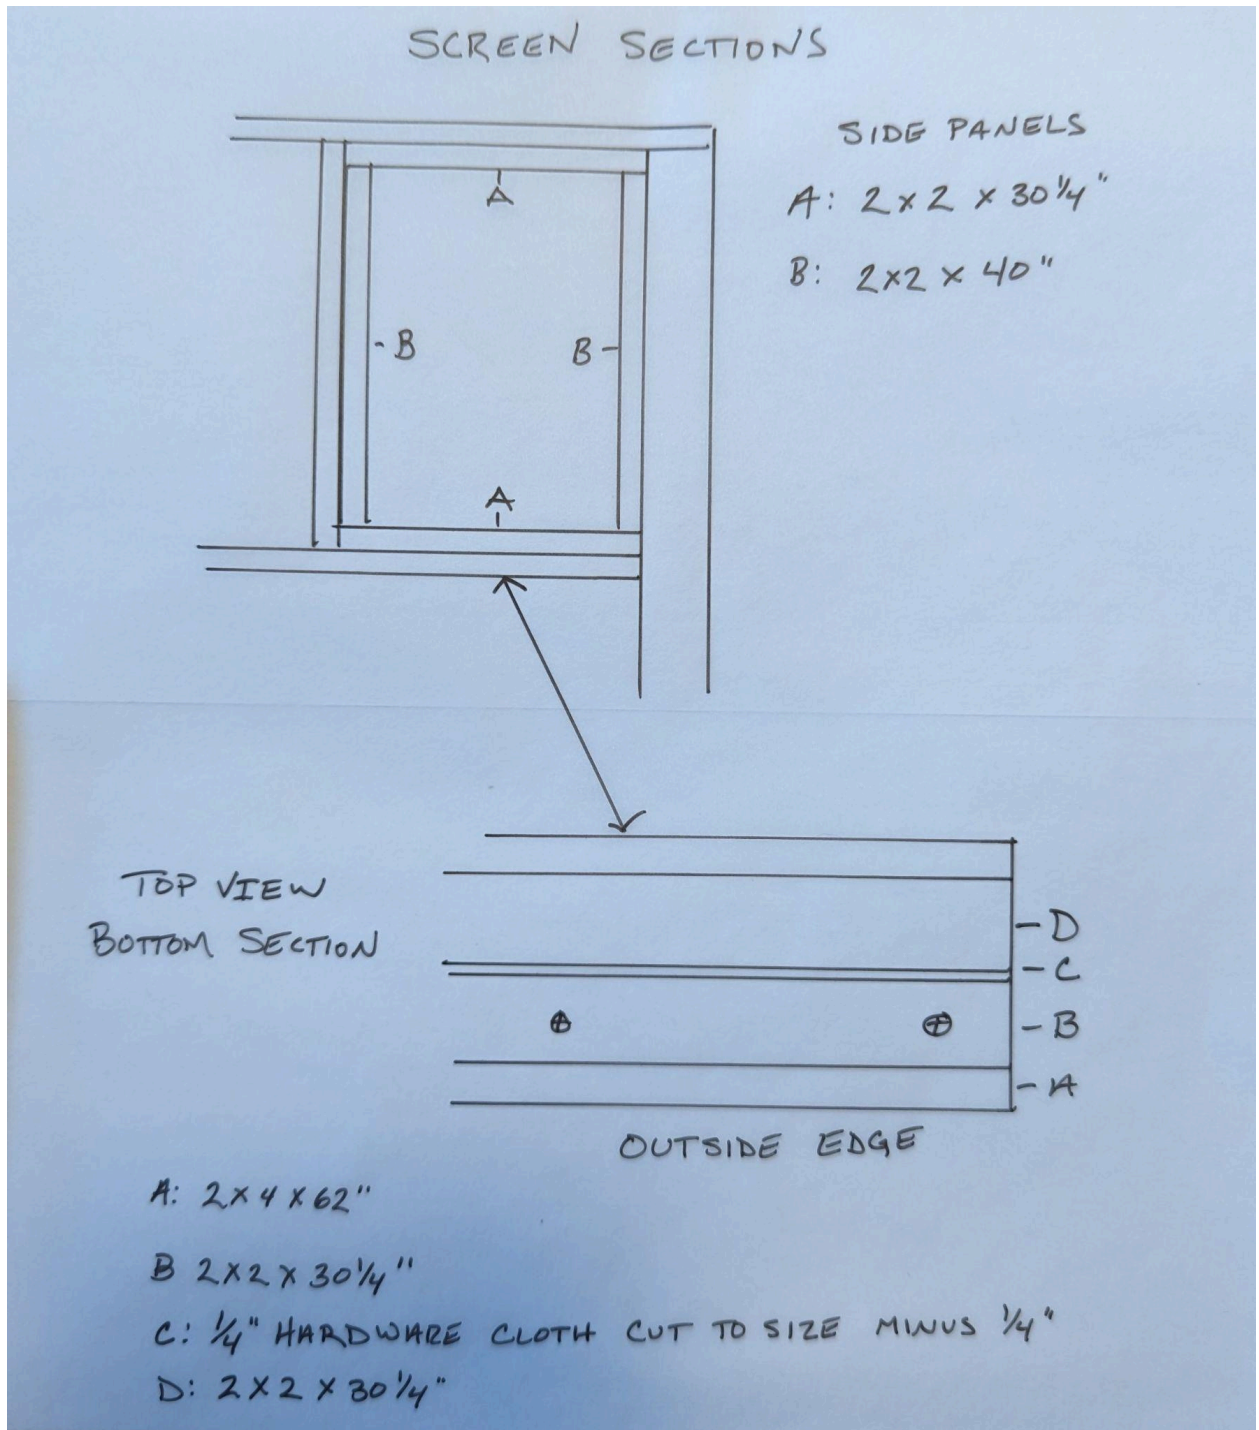

Figure 6
- The screen panel sections consist of 2x2's secured inside the openings of the wall sections. (Please check the measurements of your openings and adjust lengths as necessary.) Once your 2x2's are cut to length, screw the first four around the inside perimeter of the wall section. Set them ½" in from the outer edge using 2 ½" deck screws and fasten them through the top. See Figure 6